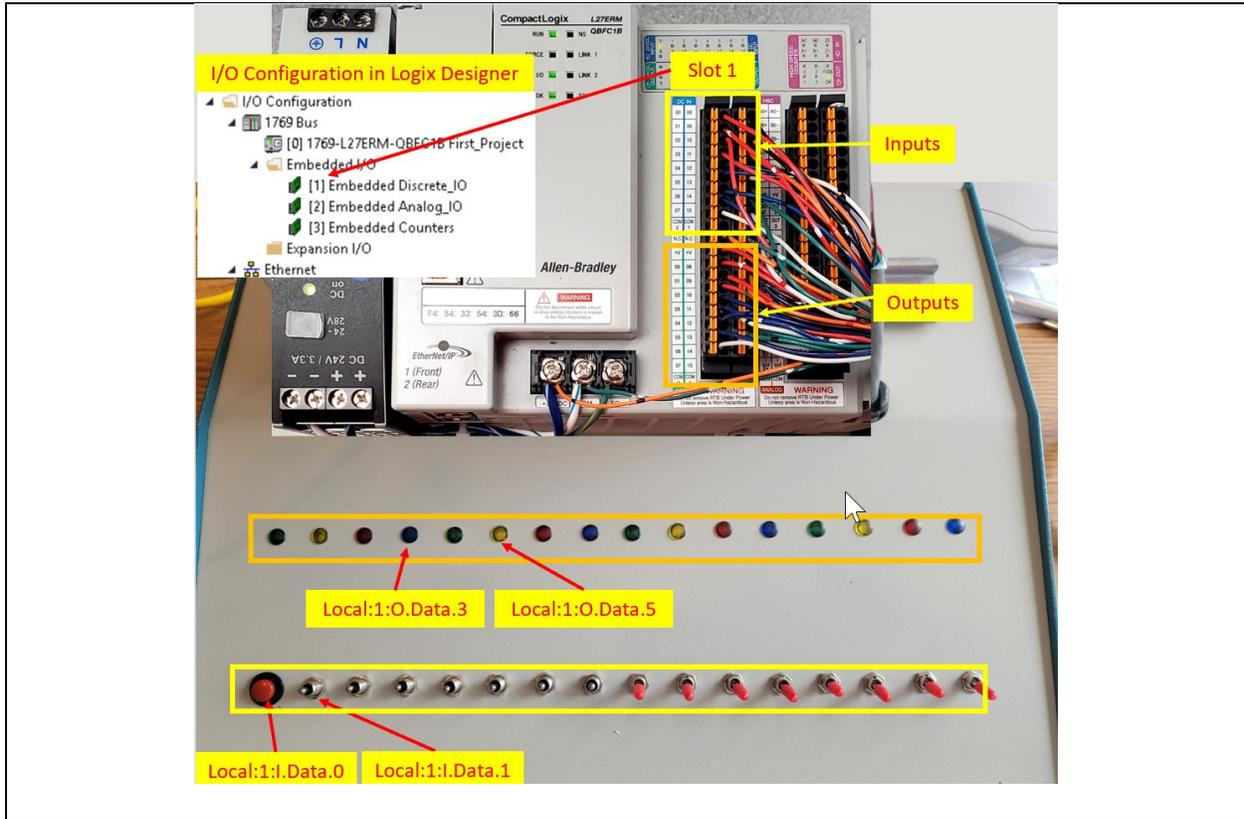

Figure 2. Discrete I/O located in Slot 1 of the 5370.
4. Figure 2 shows the discrete I/O located in Slot 1 of the controller. Identify the following: